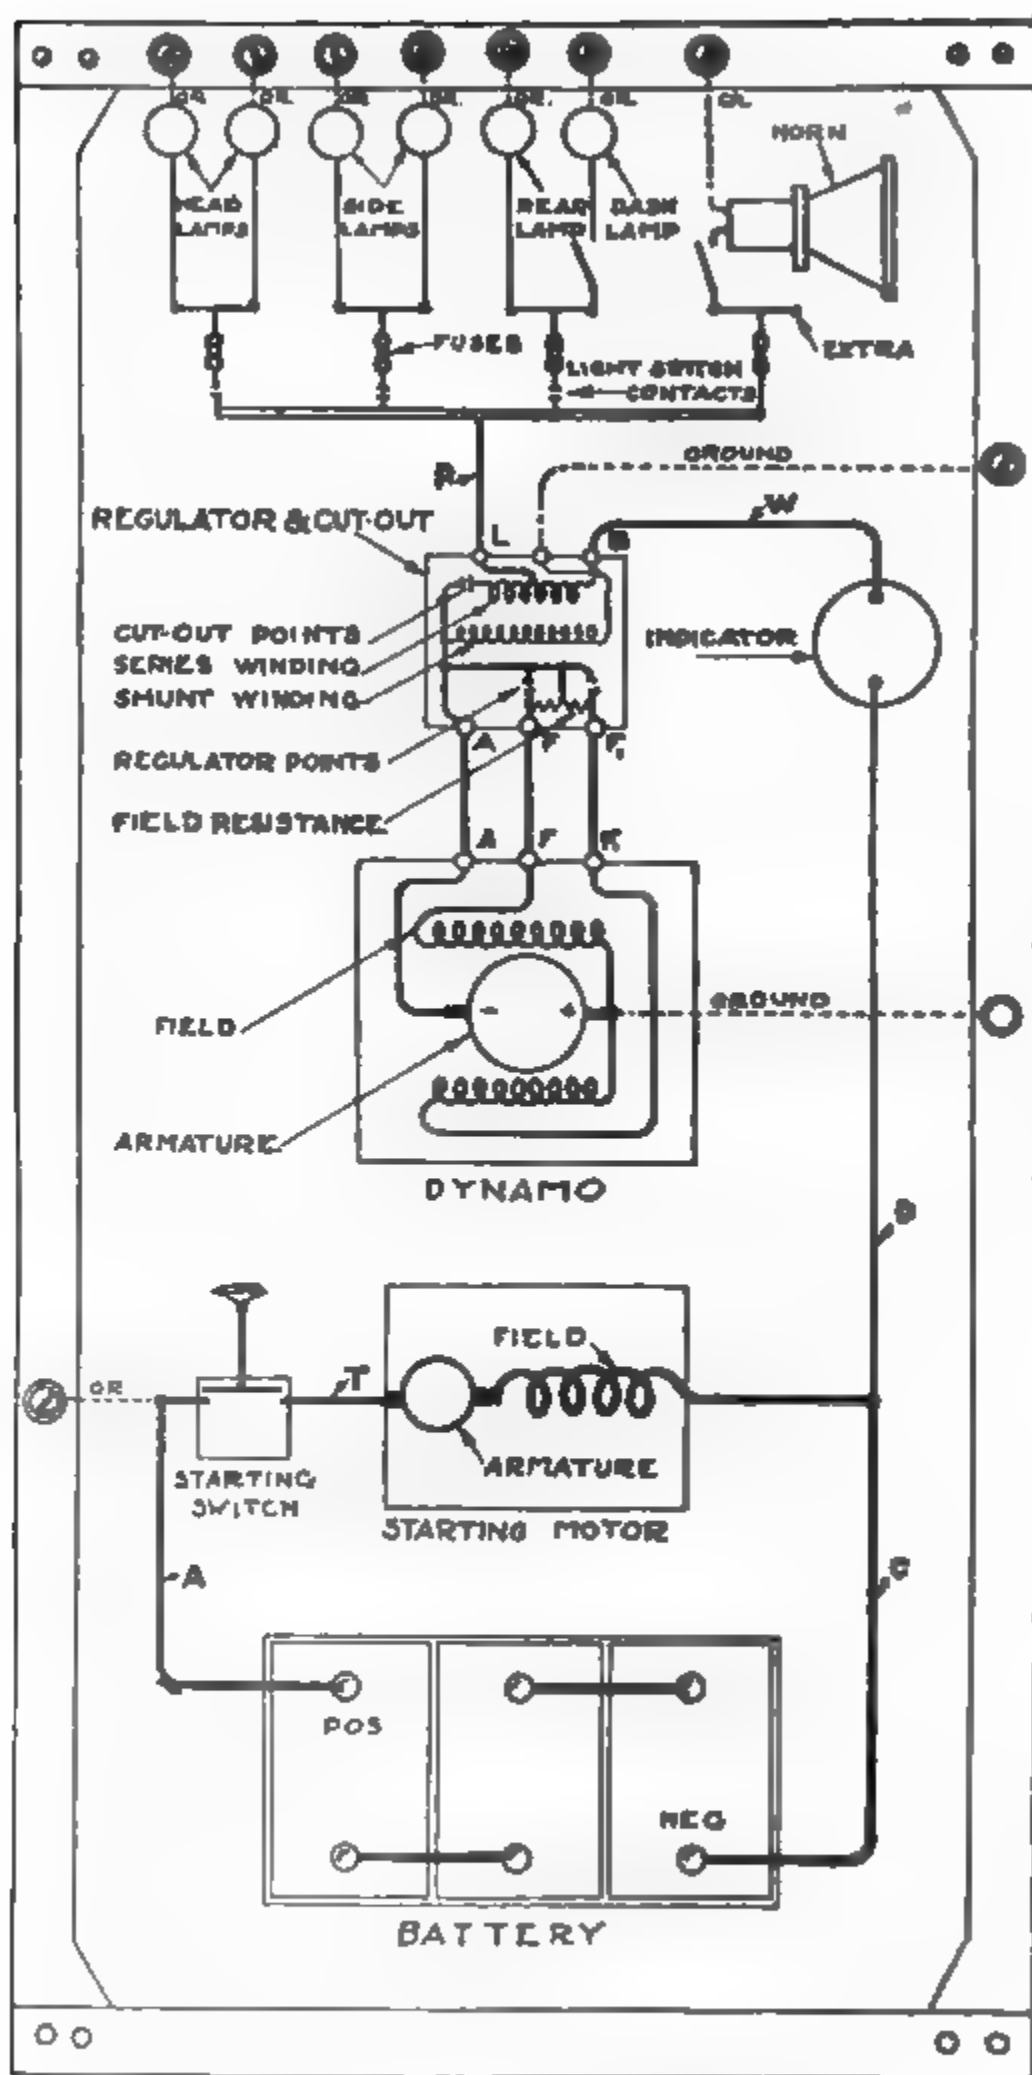

Fig 287 Wiring Diagram for Gray & Davis Single-Wire System with Grounded Switch
*Grounded-Switch Arrangement.* Fig. 287 is the Gray & Davis wiring diagram of the grounded-switch type. The only difference between this and the other diagram is that the ground connection is taken from the terminal of the cable *A* to the switch instead of from the motor.